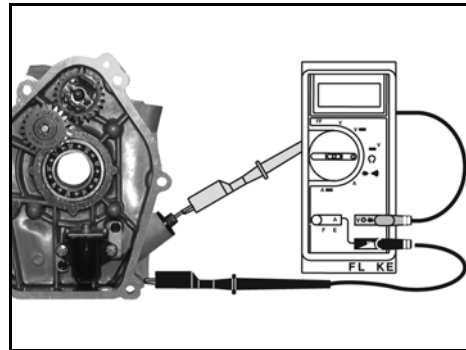

Figure 41
5. Insert BLACK test lead (B) into COM receptacle.
7. Connect other test lead to crankcase cover (Figure 41). If meter reads Zero resistance, replace sensor in crankcase cover. If meter reads some resistance, go to next step.